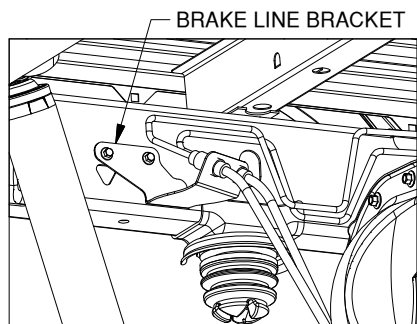

Figure A1: Looking inside driver side frame.
1. **Detach brake line bracket.** Using a 10mm socket or wrench detach the bracket holding two brake lines on the inside of the driver side frame just behind the rear axle, see Figure A1.